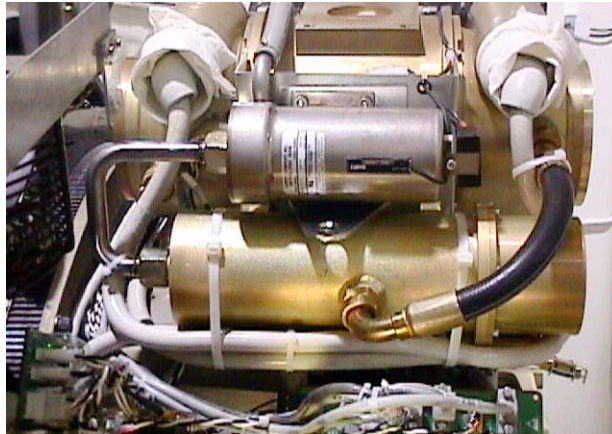

Figure 33 - HV Cables Properly Routed and Secured
- 12.) Be sure to route the HV cable as shown in Figure 33.
- 16.) Secure HV Cables using Large Ty-Raps, as shown in Figure 33.
- 20.) Install the right gantry front cover bracket. Reference Figure 33, on page 40.